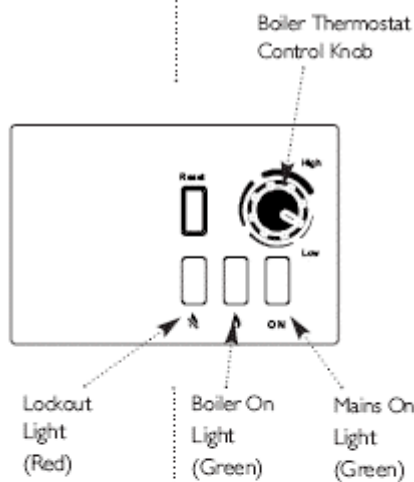
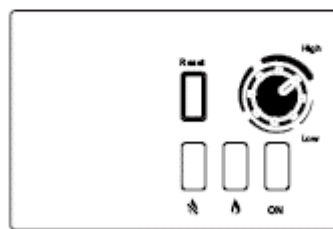

Fig. 2
Fig. 3
3. Set the boiler thermostat control knob to the required setting (Fig. 2 & Fig. 3). (The optimum boiler setting depends upon type of system, external controls and your requirements. Your installer will be able to advise you on this matter.)
4. The fan will start to run and after a short period the ignition spark will commence. Sparking will continue until the flame is established then stop automatically. Check that both the Mains ON light (**ON**) and Boiler ON light () are on (Fig. 2).